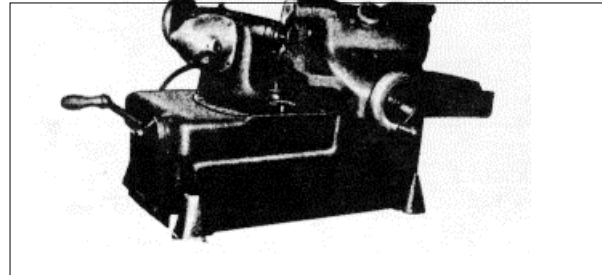
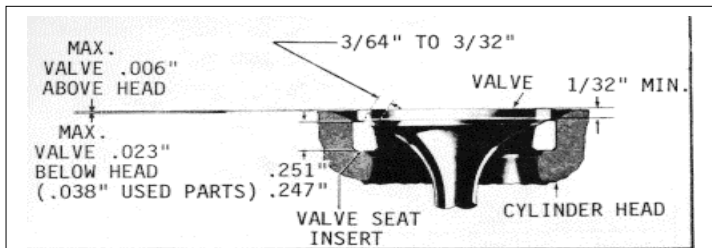

Fig.15 Refacing Exhaust Valve
Fig. 18
An exhaust valve which is to be reused may be refaced, if necessary (Fig.15). To provide sufficient valve strength and spring tension, the edge of the valve at the valve head must not be less than .031" in thickness and must still be within the specifications shown in Fig.18 after refacing.
- (1) First apply the 31° grinding wheel on the valve seat insert.
- (2) Use the 60° grinding wheel to open the throat of the insert.
- (3) Grind the top surface of the insert with the 15° wheel to narrow the width of the seat to the dimensions shown in Fig.18. The 310 face of the insert may be adjusted relative to the center of the valve face with the 15° and 60° grinding wheels.
The maximum amount the exhaust valve should protrude beyond the cylinder head (when the valve is closed) and still maintain the proper piston-to-valve clearance is shown in Fig.18. Grinding will reduce the thickness of the valve seat insert and cause the valve to recede into the cylinder head. If, after several grinding operations, the valve recedes beyond the specified limits, replace the valve seat insert.
- (9) Release the tool and install the valve locks on the remaining exhaust valves in the same manner.
- (10) Check the position of the exhaust valves (Fig.18).Support the cylinder head at each end with wood blocks and remove the masking tape so that the exhaust valves are free. Then give the end of the valve stem a sharp tap with a plastic hammer to seat the valve locks. This will aid in the proper seating of the valve locks and reduce the chances of failure.